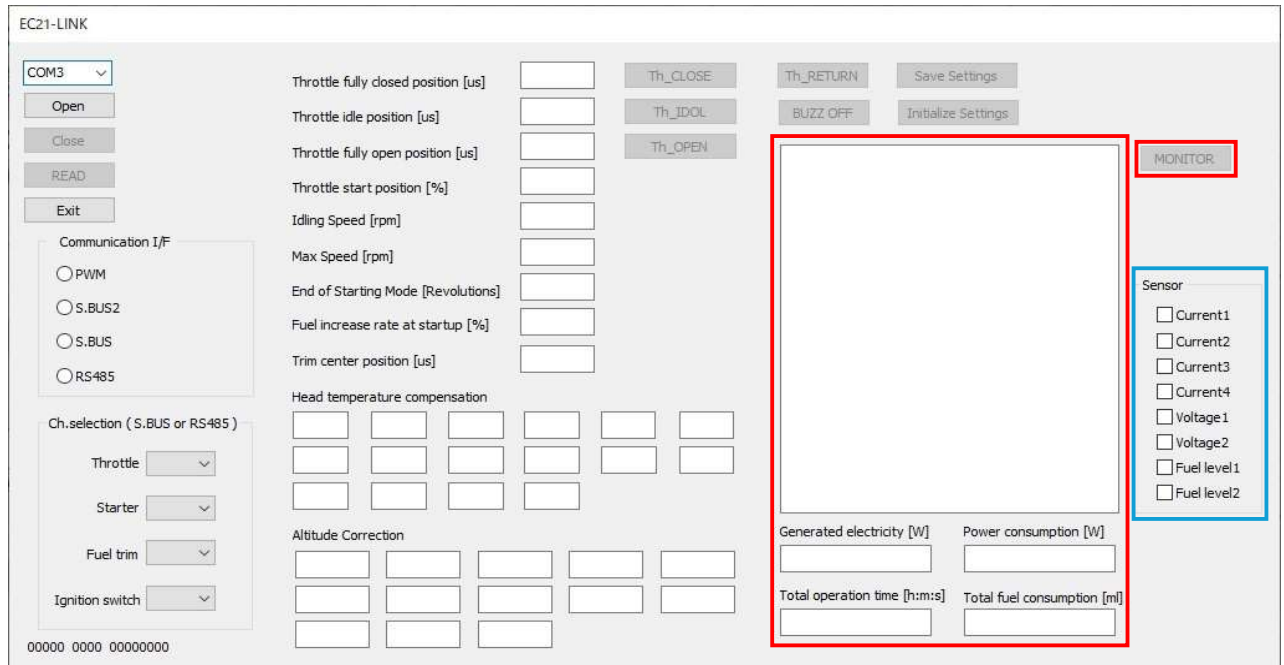

Fig.8.2
The measured value of the following articles (13)~(17) are shown on the display when the sensors are connected to the connection terminal on top of the ECU. (13)Current 1 and (14)Current 2 have to be connected for power generation control. Everything else is optional. In Fig 8.2, in the blue box, by putting a check on check boxes, you can select an item, which can be shown on the display.